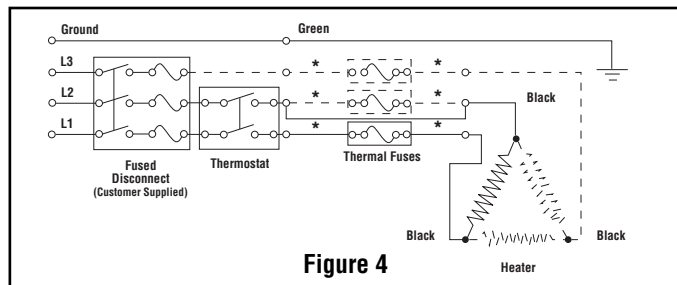

Figure 4
One Single phase heater or (3) single phase heaters equal in size and each having a thermal fuse wired as a 3 phase heater circuit using a DPST thermostat. Line voltage and current do not exceed thermostat or thermal fuse(s) rating (Figure 4). Dotted line and L3 indicate 3 phase connections.